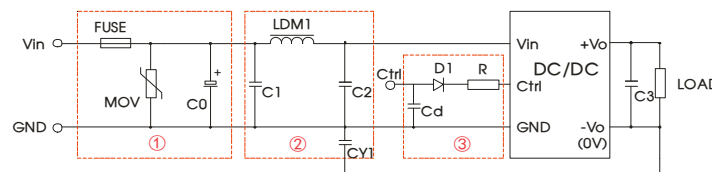

Fig. 3
- ① Part ① in Fig. 3 is used for EMS test while part ② is used for EMI filtering; and parts ① and ② may be selected based on needs.
- ② V_C is the voltage of the Ctrl end relative to the GND of the input grounding; V_D is the positive-going conduction pressure drop of D1; I_C is the current flows into the Ctrl end and its value is generally 5-10mA, see Fig. 3-③ for the peripheral circuit of Ctrl end;
- ③ If there is no recommended parameters, no external component is required.